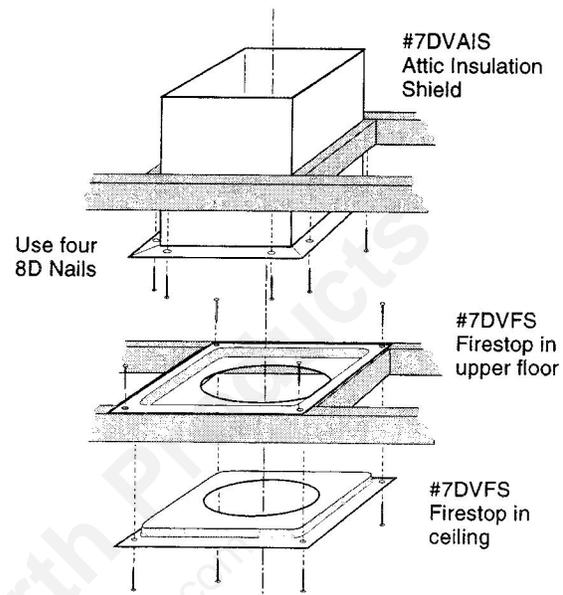

Figure 40. Install firestops and attic insulation shield.
6. Install Firestop(s) #7DVFS and Attic Insulation Shield #7DVAIS as appropriate. Fig. 40. If there is a room above ceiling level, a firestop must be installed on both the bottom and top sides of the ceiling joists. If an attic is above ceiling level, an Attic Insulation Shield must be installed.